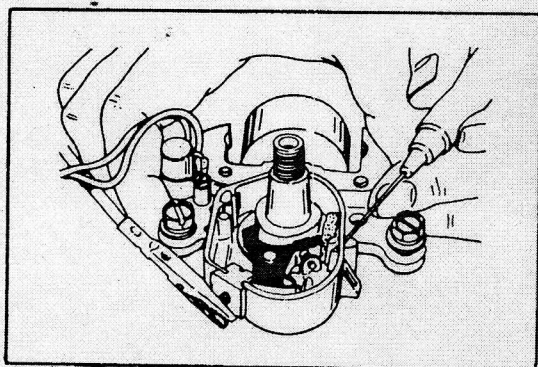

Fig. 29 INSTALL TEST LIGHT WITH COIL LEADS DISCONNECTED FROM POINT TERM.
Turn crankshaft backward to lower piston far enough to insert tool and bring piston head in contact with tip of tool in direction that engine runs. Figure 29.
5. With piston in this position, adjust stator position as indicated, in Figure 29 and 30 below.